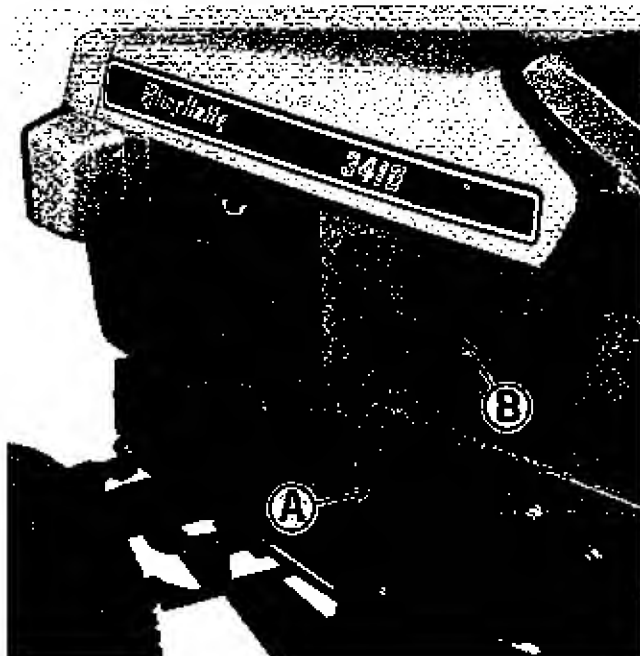
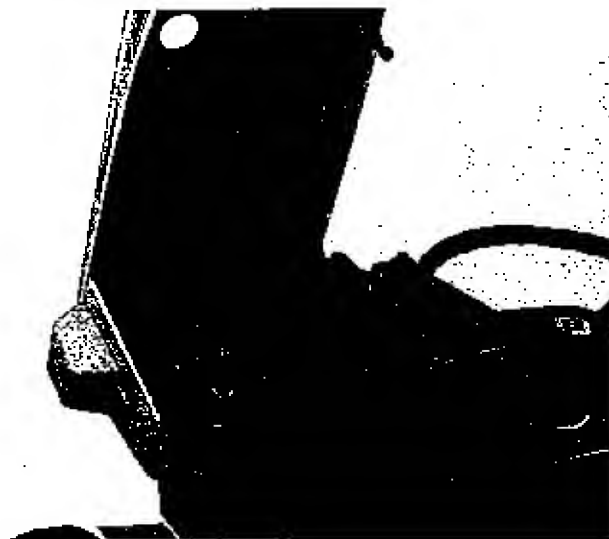

Figure 7. Left side of tractor.
Figure 8. Tractor hood raised for easy access.
See figure 7. The tractor hood is hinged at the front by two springloaded bolts. It may be easily opened by releasing the two rubber straps (B) located on either side of the hood. Pull down and out on the straps to release them. See figure 8. Lift upward on the back of the hood to raise it as shown. The hood raised in this position provides easy access to the generator, battery, fuel tank, engine, etc.